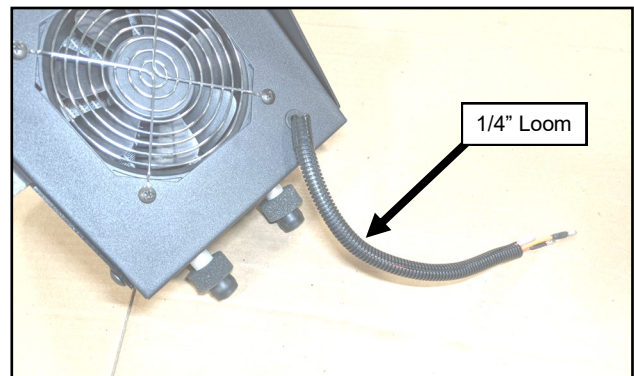

Fig. 16.2 (Apply Loom to Heater Wires)
16.2 Apply 1/4" wiring loom to the heater wires. See Figure 16.2.